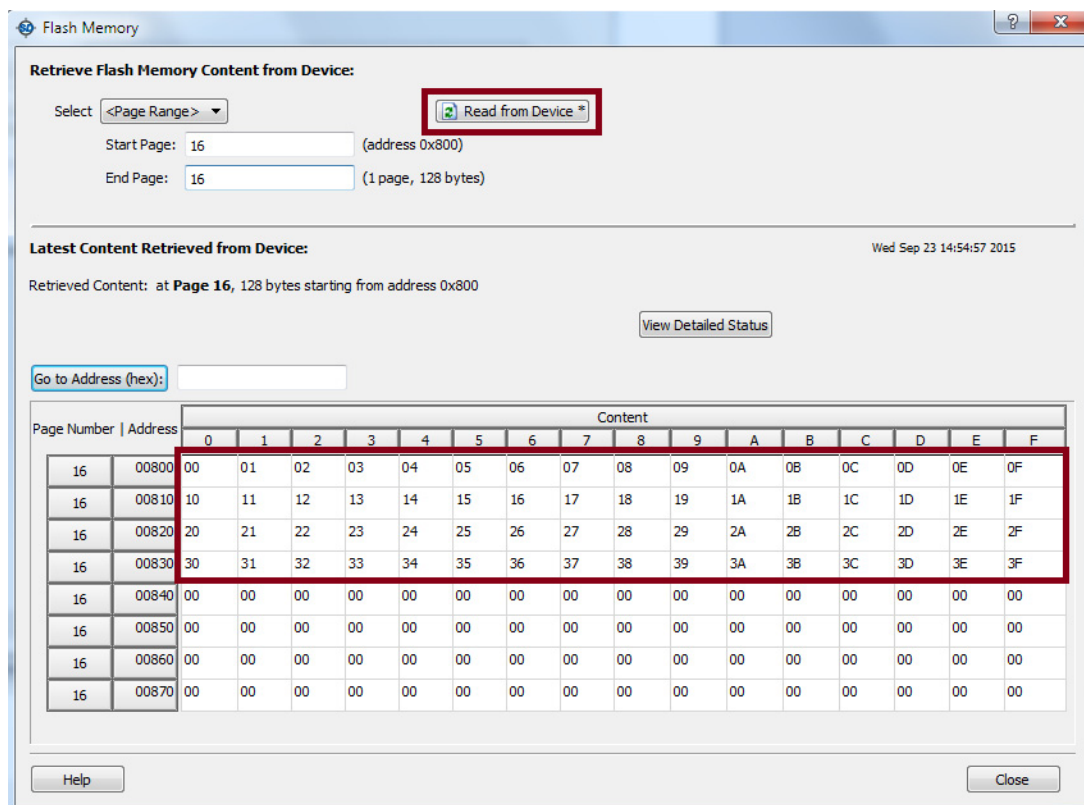

Figure 24 • SmartDebug GUI Showing Flash Memory
4. Click **Read from Device** as shown in Figure 24. SmartDebug reads eNVM content and display it in the GUI.